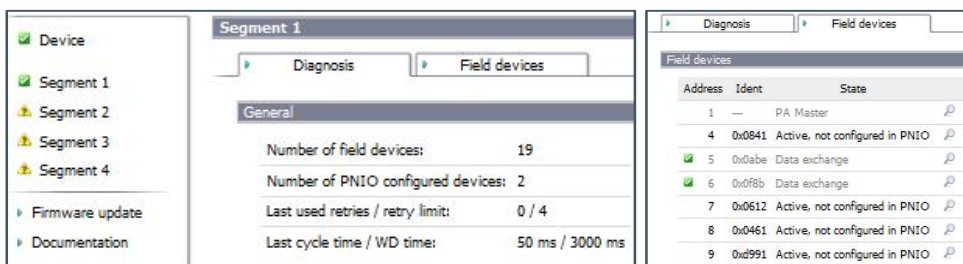

Figure 43: Overall segment status for Segment 1
- 7) At the left side, select the corresponding segment, such as **Segment 1** to view **Diagnosis and Field devices** for the segment status (see: Figure 43: Overall segment status for Segment 1).